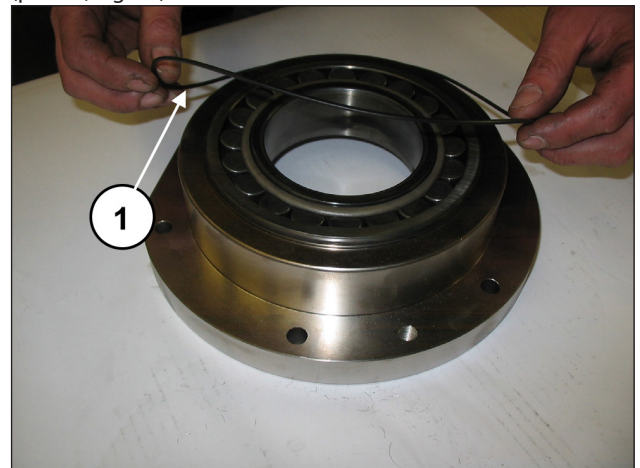

Fig. 72
Apply the O-ring to the outside of the bearing support cover (pos. ①, Fig. 72).